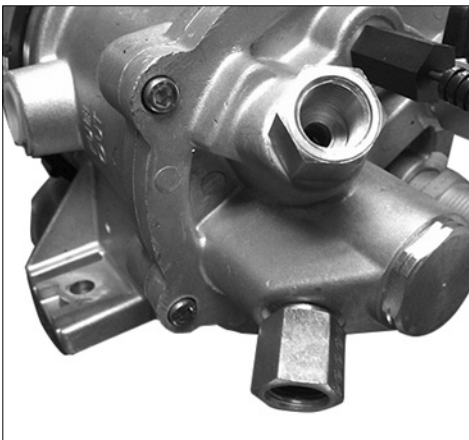

Figure 15: Parker Adapter 3/8-6 F50G
**Step 1:** Install Parker adapters 3/8-6 F50G into each port on the bottom plate of the Fuel Pro (Figure 15).